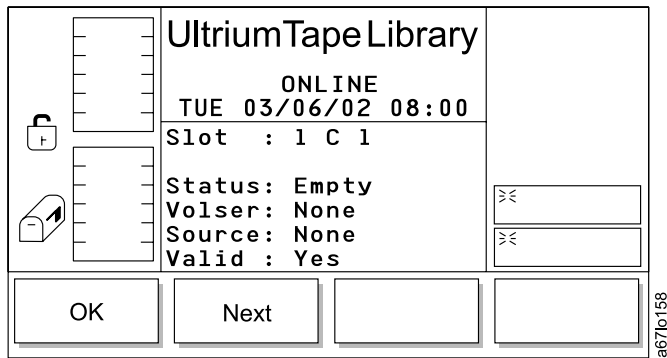

Figure 89. Slot Information Dialog
- If **OK** is selected, the source parameters are accepted, and the Slot Information Dialog displays (see Figure 89 on page 96).
- If **Next** is selected, the Slot Information Dialog displays (see Figure 89).